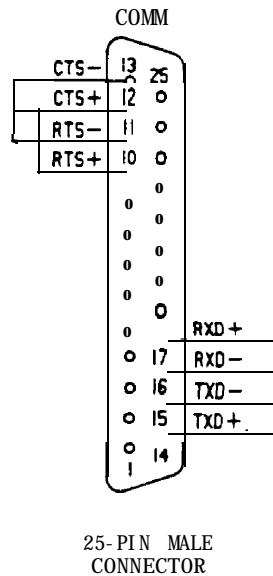

Figure 4.4 LOOP-BACK TEST CONNECTOR
2. A serial loop-back test using the special test connector shown in Figure 4.4 is performed. This procedure verifies that all of the serial interface hardware is operational.